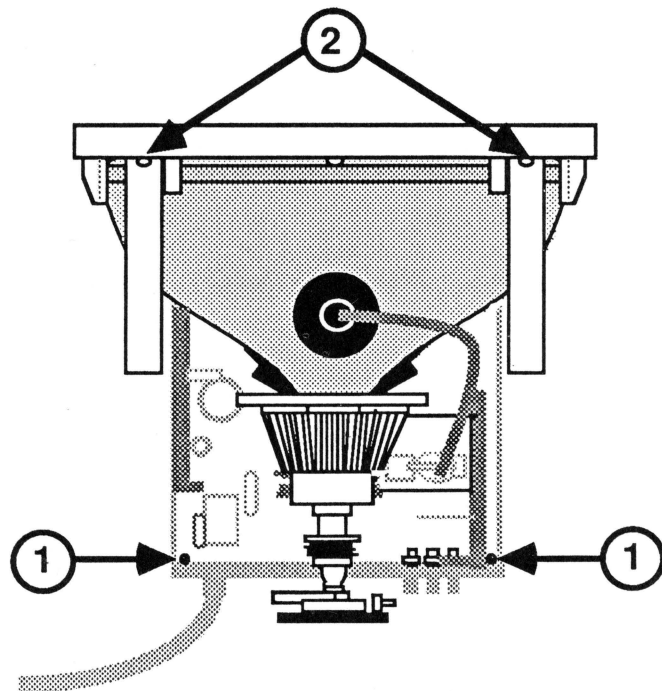

FIGURE 17
- a. Remove the two screws\* (Figure 17, #1) that secure the back panel to the main logic PCB.
16. For Rev. A only, remove the two screws\* holding the two upper case support brackets\* to the bezel (Figure 17, #2).